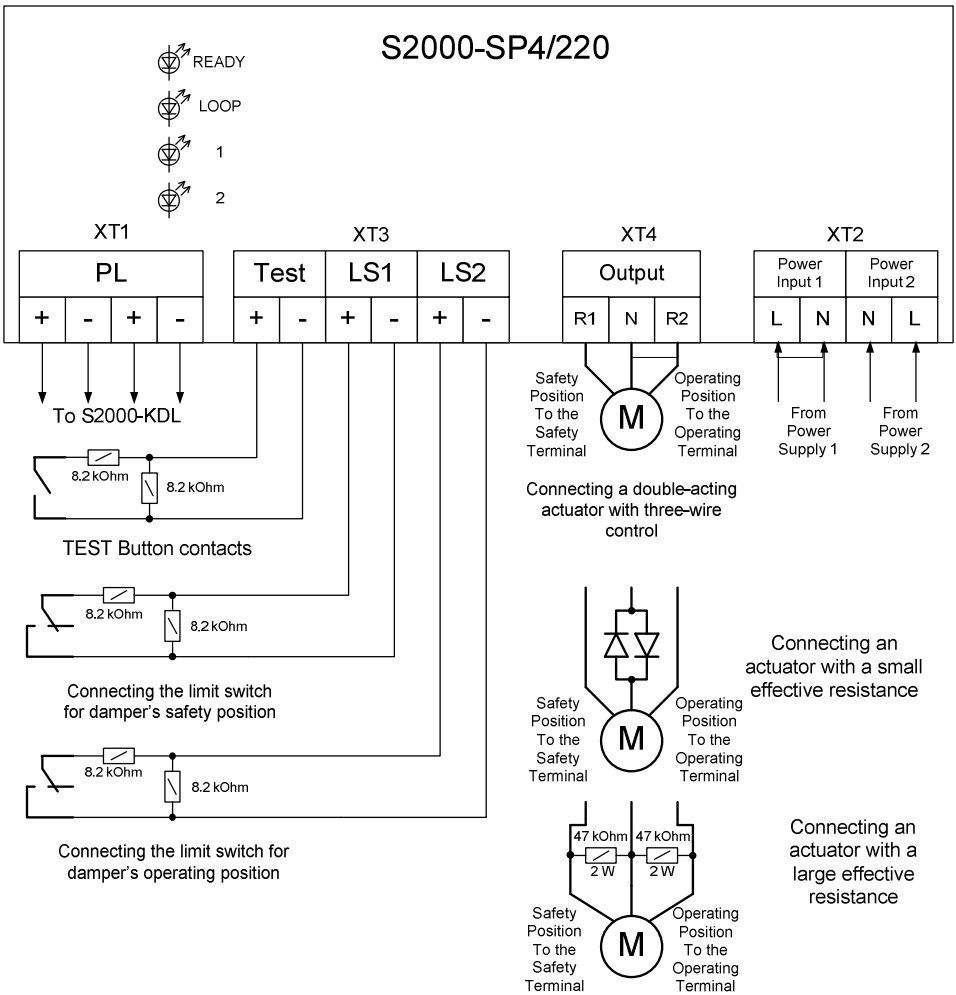

Figure 1. Connection Diagram.
2.1.4 If executive devices with the effective resistance of 250 Ohm to 50 kOhm are to be connected to the module, they should be connected directly without any additional units (see Figure 1).
1N5406 diode if the operational current exceeds 1A). The diodes must be brought closely to the executive device (see Figure 1).
2.1.6 If the control voltage is 5 V and the load effective resistance exceeds 50 kOhm (the voltage between terminals of the output exceeds 4 V), a resistor with resistance less than 50 kOhm and the relevant wattage (47 kOhm & 2 W is recommended) should be brought in the circuit closely to the executive device, in parallel with it (see Figure 1).
3.2.4 Wire the module as shown in Figure 1.